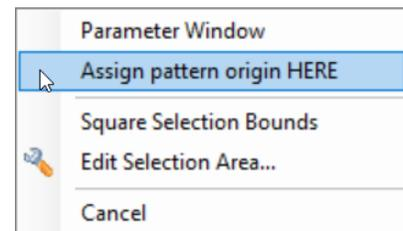
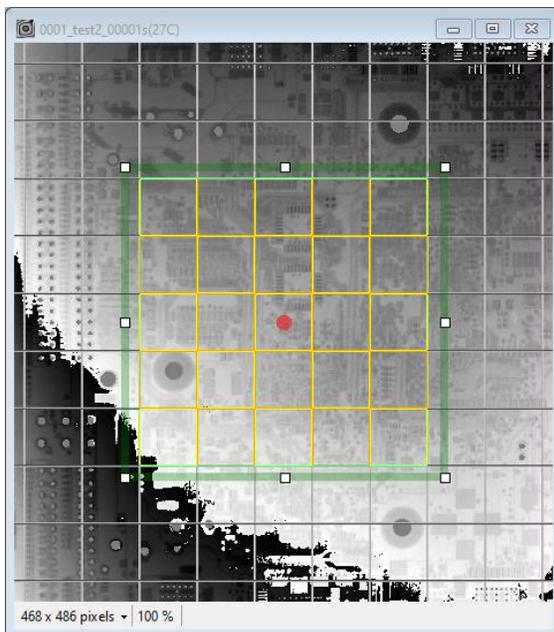
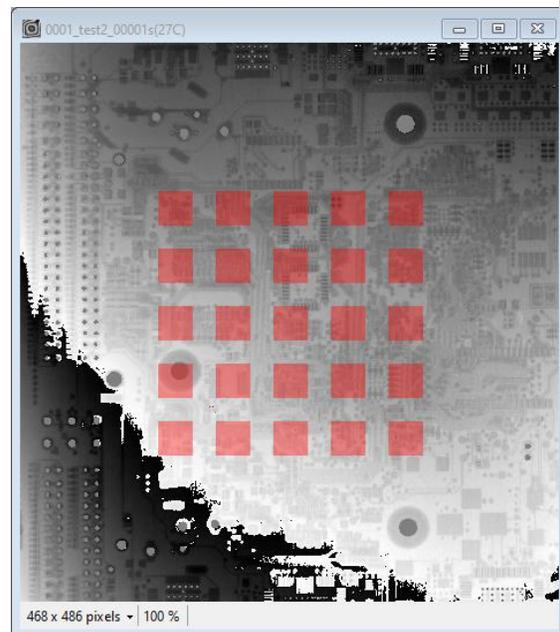

Figure 3.13 Array Context Menu
Figure 3.14 Mask Array Green Bounding Box
Figure 3.15 Added Mask Array
4. The array pattern origin can be changed graphically by right clicking at the desired point on the phase image and selecting **Assign pattern origin HERE** (Figure 3.13).
5. To save the mask regions, use the green array bounding box to select the specific regions to be saved. The bounding box can be edited via the Array Context Menu to square its dimensions or edit its position and size (Figure 3.13). Note that only regions whose whole areas are enclosed by the green bounding box will be saved, as seen in Figure 3.14 and Figure 3.15. Click on **Add Regions** to add the selected regions. The program will lock these regions so that they cannot be edited. Interaction with the created array can occur just as with a normal mask (see Section 3.2.1).